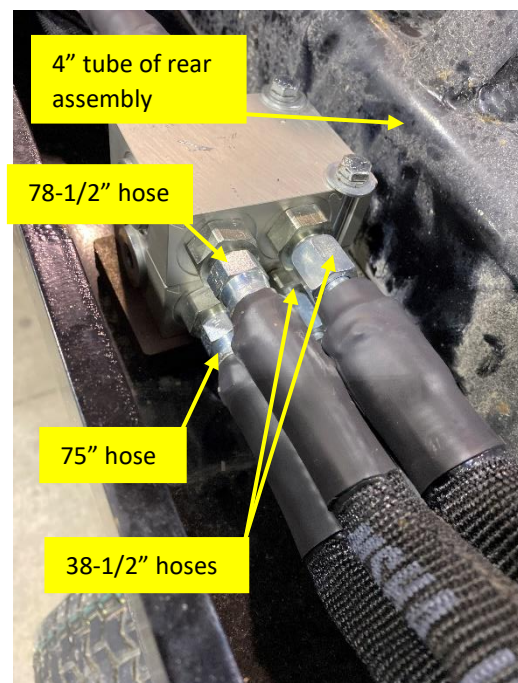

Figure 11
9. Connect the 75-inch hose (**ITEM 2**) to the remaining open port on the bottom hydraulic block and the 78-1/2-inch hose (**ITEM 2**) to the remaining open port on the top hydraulic block installed in step 4. **Figure 11**